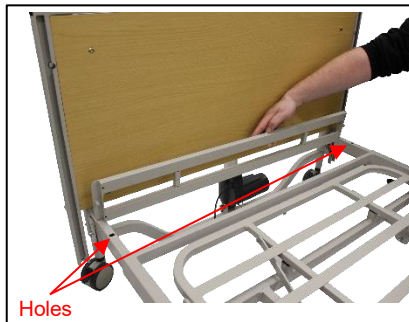

Figure 15: Release locking pins
- To decrease the knee break angle, manually raise the calf/leg section to the desired position. The calf/leg section will automatically lock into place (*Figure 15*).
- Place and secure the extension platform onto the holes that are located on the bed extension (figure 15)